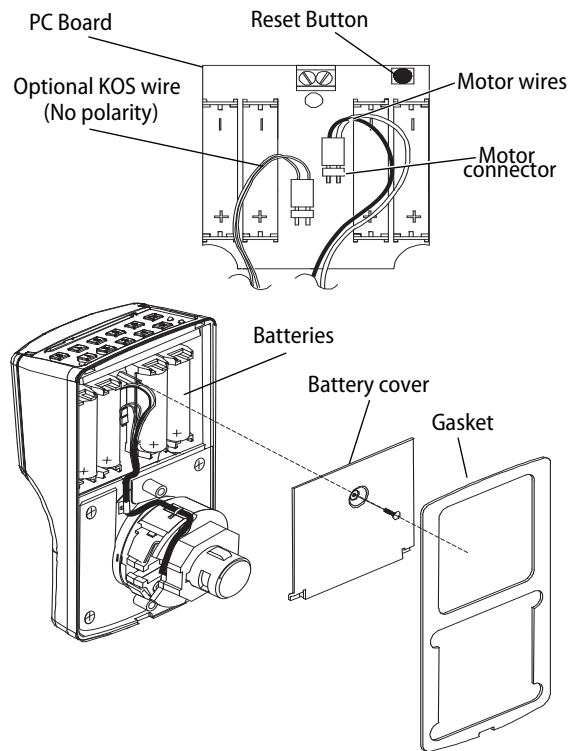

Figure 4 Attach wires and install batteries
- 1 Attach the motor and optional Key Override Switch (KOS) wires per Figure 4. Ensure that the red and black motor wires are attached according to the illustration on the circuit board.
- 4 Replace the battery cover. See Figure 4. Make sure that the tabs on the lower corners of the battery cover are hooked over the edge of the back plate and secure the cover with the screw.
- 5 Replace the gasket. See Figure 4. Make sure that it is inside the edge of the housing.